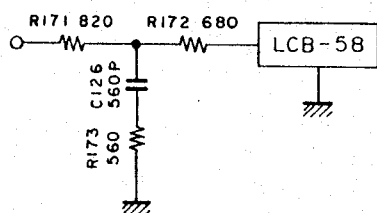
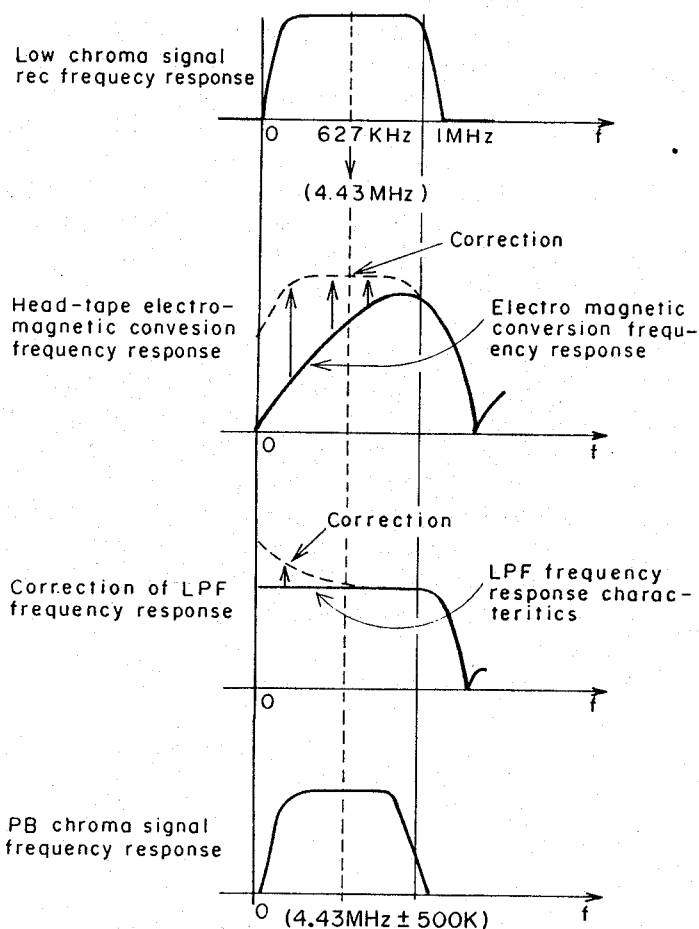

Fig. 87
Fig. 88
There is a C and R network in the vicinity of REC LPF as shown in Fig. 87, and it is to correct the frequency characteristic in PB and REC total (Same for R149 and C108 in the vicinity of PB LPF LCB-59) (Fig. 88)
LCB-60 is to take out the chroma signal of 4.43 MHz from the output ⑫ of BAL MOD during PB. (Fig. 89). Here is also provided L31 (47  $\mu$ ) behind the filter to correct the frequency characteristic same as above. (When 4.43 MHz is converted into low band, the band frequency is reversed in plus and minus. Therefore, the correction by L31 as in Fig. 89 is the correction in the same direction as the correction in Fig. 88.